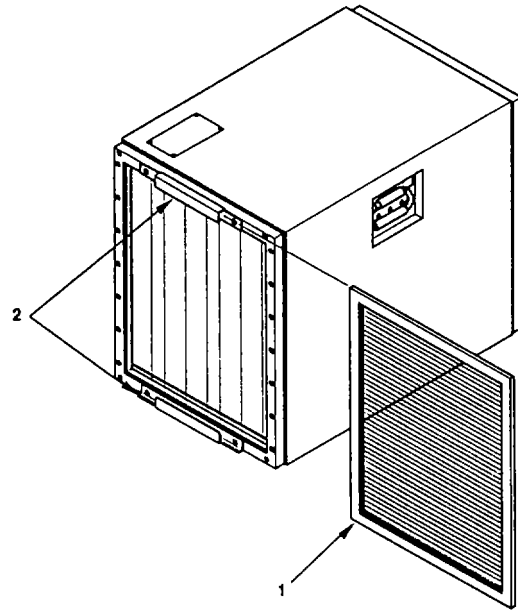

Figure 3-1. Return Air
- a. Remove. Remove filter (Figure 3-1, 1) from return air filter brackets (2).
- b. Service. Clean filter (1) with warm soapy water and air dry prior to installation. If damaged, replace filter (1).